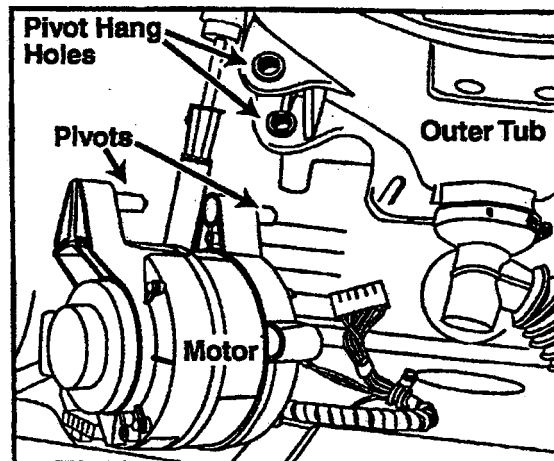

Figure 2-53
4. Lift the motor slightly to disengage the belt from the motor pulley. Grasp the motor and slide it carefully from the pivot hang holes in the outer tub. Place motor on the base frame (Figure 2-53).